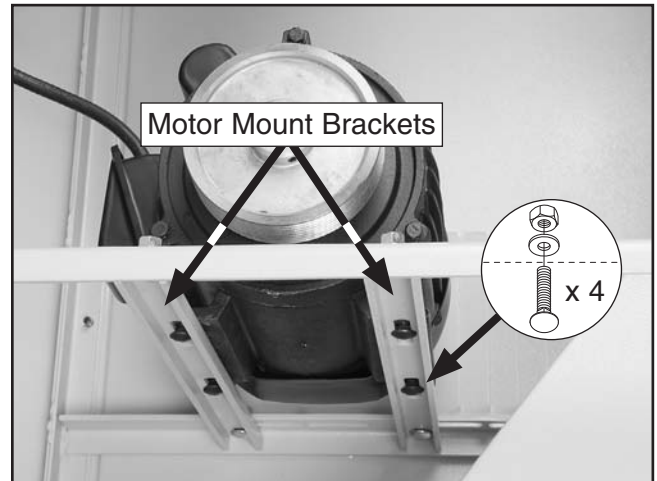

Figure 7. Motor installed.
7. Place the motor on the two motor mount brackets with the pulley facing the rear of the cabinet, as shown in **Figure 7**.
8. Attach the motor to the motor mount brackets with (4) M8-1.25 x 25 carriage bolts, 8mm flat washers, and M8-1.25 hex nuts (two sets from inventory and two sets that were removed in **Step 4**), as shown in **Figure 7**.